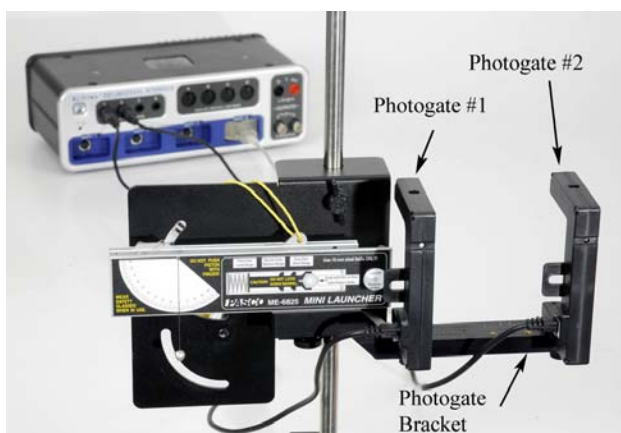

Figure 6: Measuring the Launch Speed
15. Attach Photogates to the launcher using the Photogate Bracket as shown in Figure 6. Slide the bracket so that Photogate #1 is as close to the end of the launcher as possible.